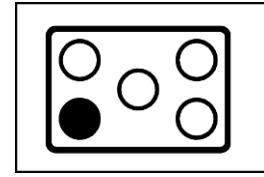

Fig. 6
- **Cook-top control panel and use** - On the control panel, 4 empty and one fully coloured circles are placed next to each gas cock knob of the cook-top (Fig. 6). The fully coloured one indicates the position of the gas burner that is commanded by the knob in question.